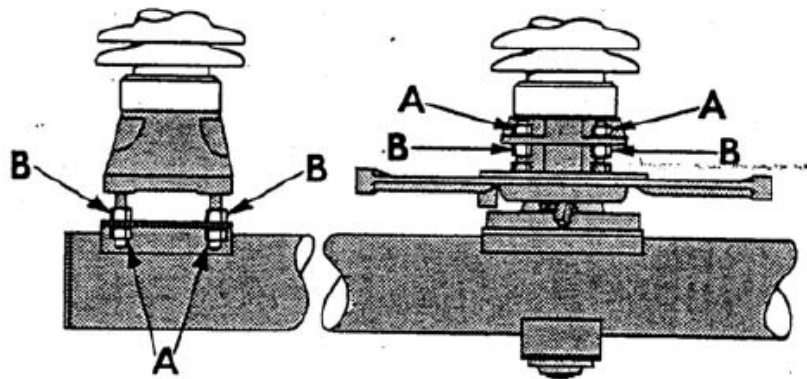

Figure 4: Jack Screw Adjustment
| Figure 4: Jack Screw Adjustment | 6 |
5. Use a plumb bob or level and true up the end insulators. It is important that they be perpendicular to the base in both planes. Use the jack screws to level these stacks. (Due to the overhang of the insulator skirts, it will be necessary to use a piece of scrap metal or wood to extend the plumb bob string beyond the skirts). See Figure 4 for jack screw adjustment procedure.